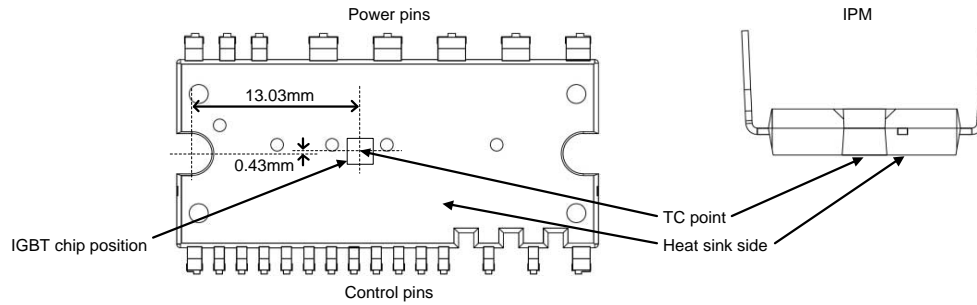

Figure 1. T_c Measurement Point
1. For the measurement point of case temperature (T_c), please refer to Figure 1.